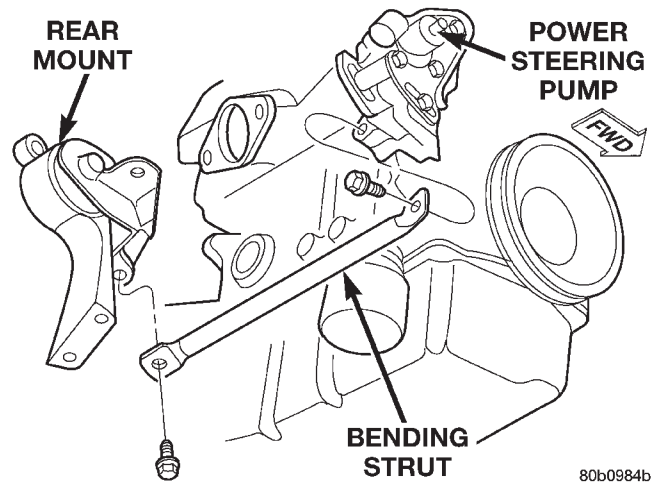

Fig. 12 Bending Strut—2.0L
- (4) Remove bending strut from rear mount to engine (Fig. 12).
- (5) Remove bolts attaching rear mount to suspension crossmember.